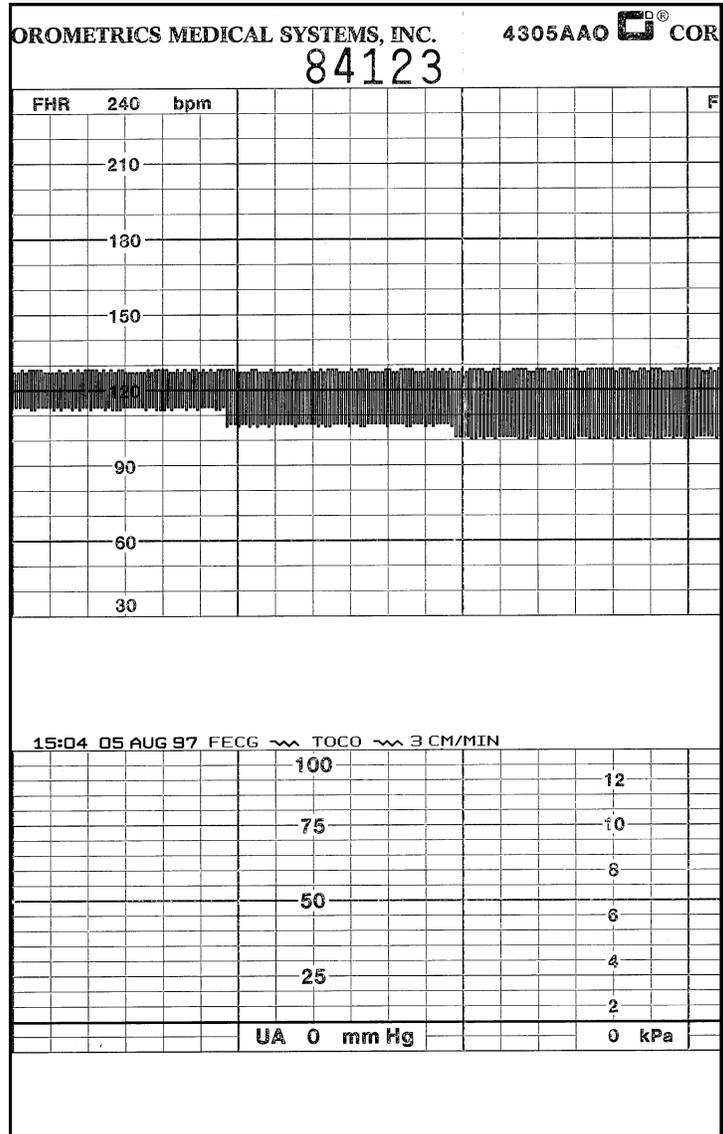

Figure 6-5. FECC Artifact Elimination
- The recorder prints an oscillation of 15 BPM between 115 and 130 BPM on the top grid of the strip chart paper. (Refer to Figure 6-5.)
13. Repeat step 12 for rate values of  $\Delta 22$  and  $\Delta 27$ . The results should be the same except that the FHR1 value oscillates by either 22 or 27 BPM and the recorder prints an oscillation of 22 or 27 BPM. The top value is always at approximately 130 BPM. (Refer to Figure 6-5.)